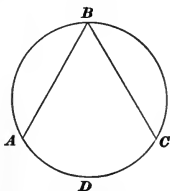

FIG. 43.
**72.** An **inscribed angle** is one whose vertex lies on the circumference of a circle and whose sides are chords. It is measured by one-half the intercepted arc. Thus, in Fig. 43,  $ABC$  is an inscribed angle, and it is measured by one-half the arc  $ADC$ .
EXAMPLE.—If in Fig. 43, the arc  $ADC = \frac{2}{3}$  of the circumference, what is the measurement of the inscribed angle  $ABC$ ?